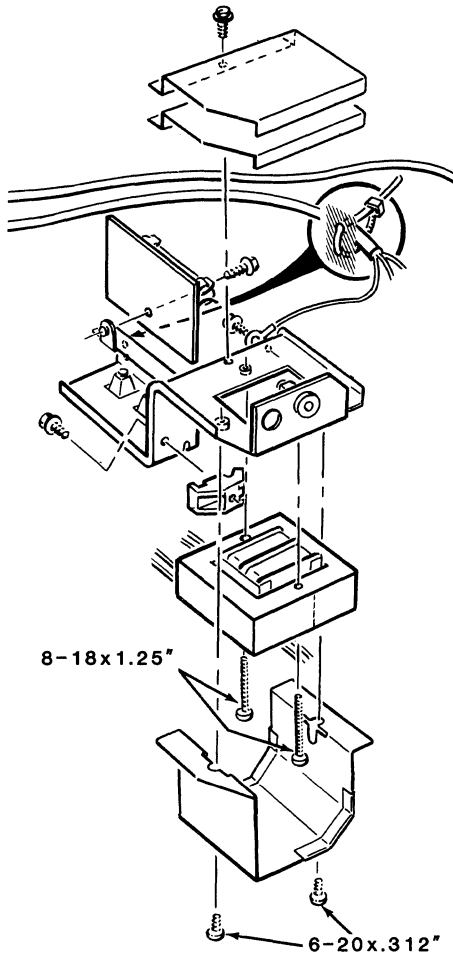

Figure 2.5
6. Refer to Figure 2.5 and remove the two 6-20 x .312" screws that hold the transformer cover in place. Remove the cover.